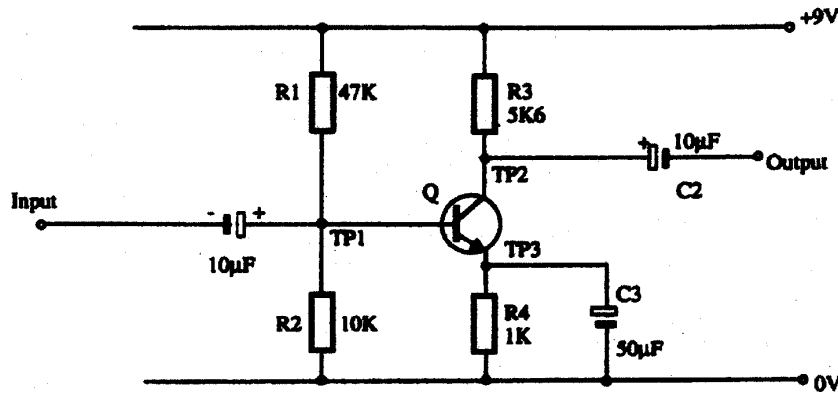

Figure 2
a) The circuit of figure 2 shows a common emitter amplifier.